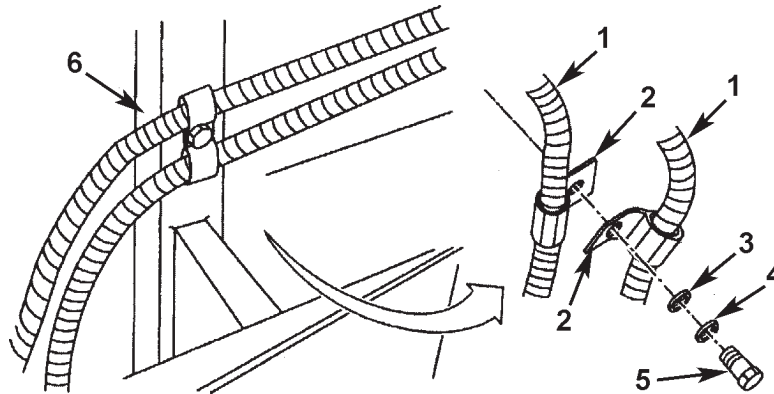

Figure 66. Blade Folder Hose Clamps (2 of 2).
Step 3 applies to Figure 66.
3. Secure two blade folder hoses (item 1) with two clamps (item 2), one flat washer (item 3), new lock washer (item 4), and screw (item 5) to hole on hull member (item 6).